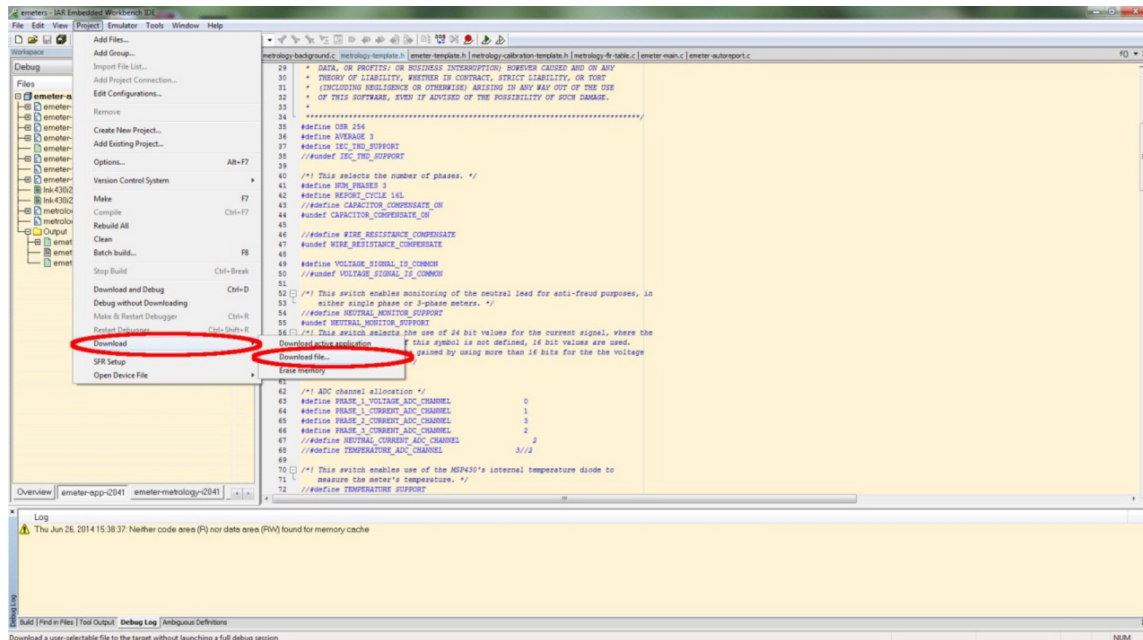

Figure 34. Download Executable File
2. Then select Project → Download → Download File... from the menu, as shown in Figure 34.